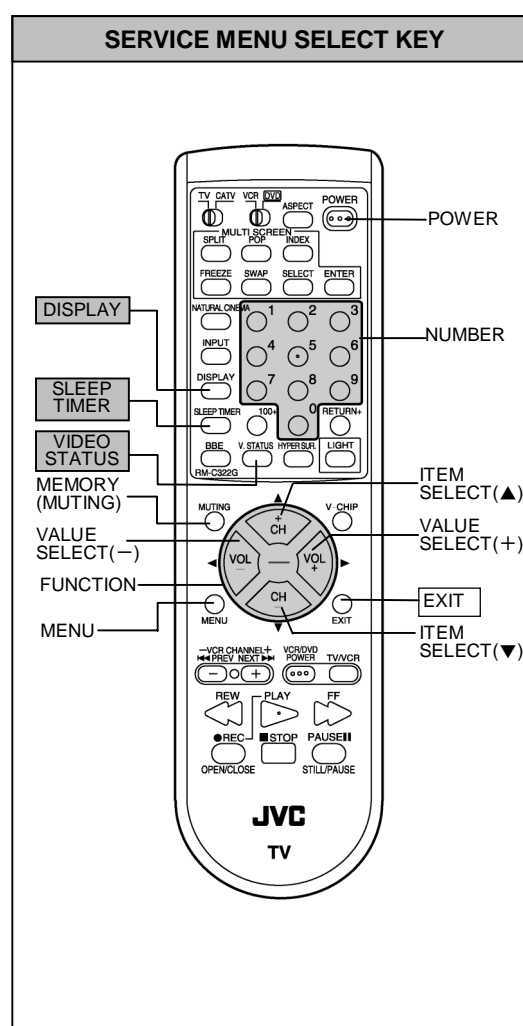

Fig.2
1) Press **SLEEP TIMER** key and, while the indication of **SLEEP TIMER 0 MIN** is being displayed, press **DISPLAY** key and **VIDEO STATUS** key on the remote control unit (Fig.2) simultaneously.